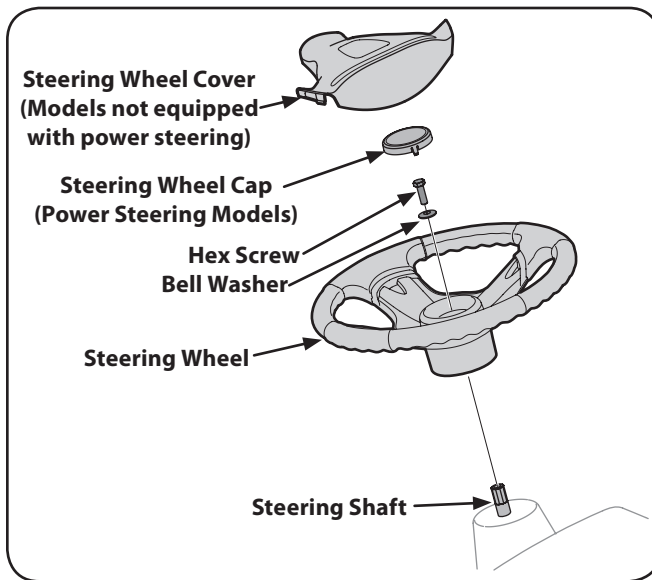

Figure 3-3
2. Pry the steering wheel cover/cap off the steering wheel and remove the hex screw and bell washer. See Fig. 3-3.
4. From the operator's seat, rotate the steering wheel so that the spokes of the wheel are in the basic 'T' position. Align the steering wheel and press the steering wheel onto the shaft. See Fig. 3-3.